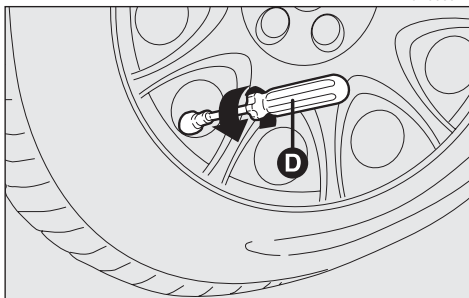

fig. 15
**3)** Unscrew the tyre valve plug, remove the element inside the valve by using the appropriate tool (**D-fig. 15**); be careful not to place it on the sand or on a dirty surface .